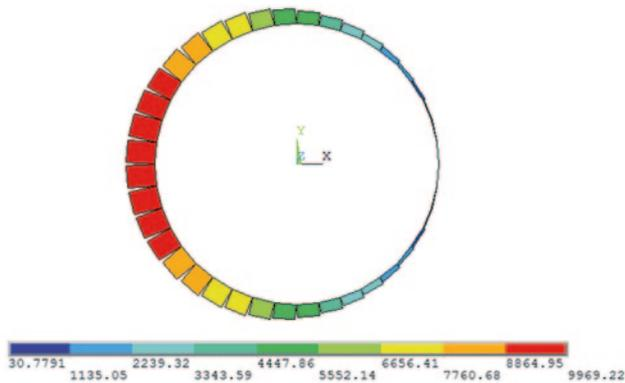

Fig. 8.7 Moment diagram of the steel ring
- Figure 8.7 shows the resulting moment diagram as displayed in the Graphics Window.